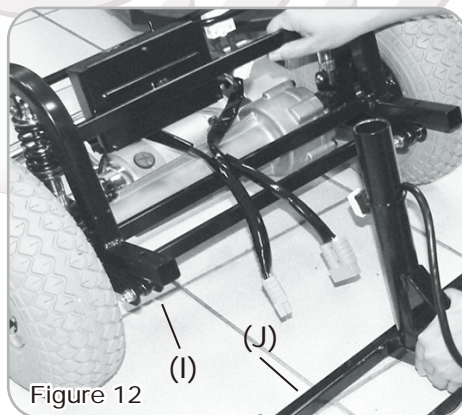

Figure 12
With one hand on rear frame (I) and other on seat pillar (J) as hand hold, detach front and rear sections. (See Fig. 12)